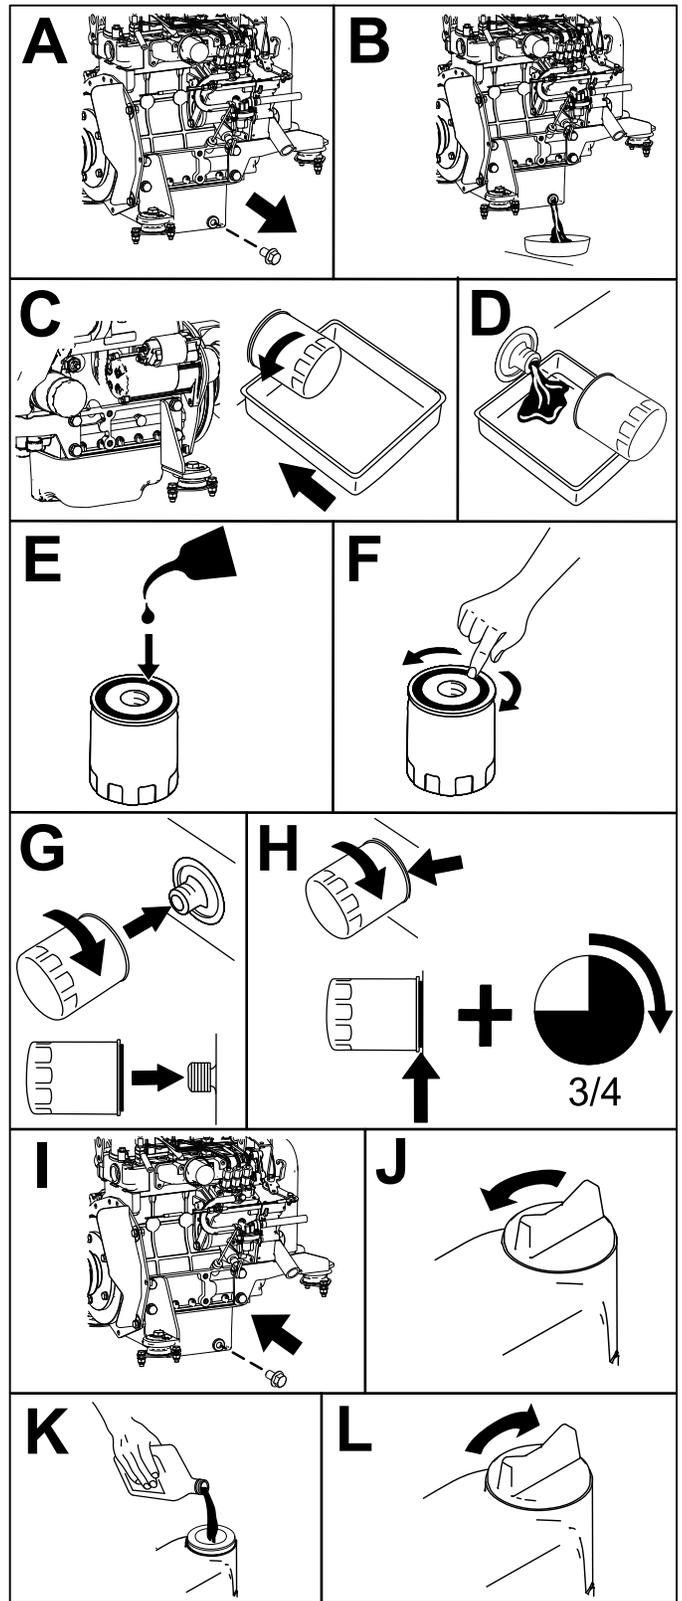

Figure 58
6. Change the engine oil and engine-oil filter as shown in Figure 58.